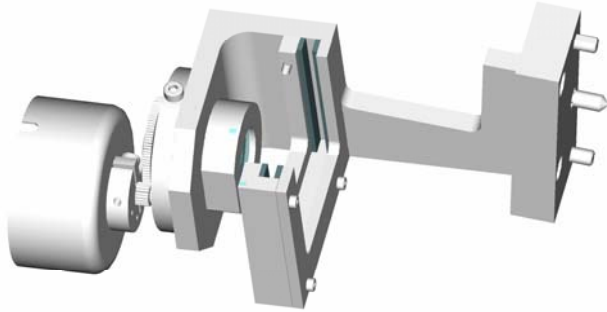

Figure 8-5
6. In order to provide a fine adjustment device, temporarily place the gear clamp (an integral part of the cover previously removed) over the smaller gear and tighten the clamp. This will allow the cover to be rotated in order to move the Iris in small increments for the final adjustment. See Figure 8-5 showing the cover and gear clamp temporarily installed.